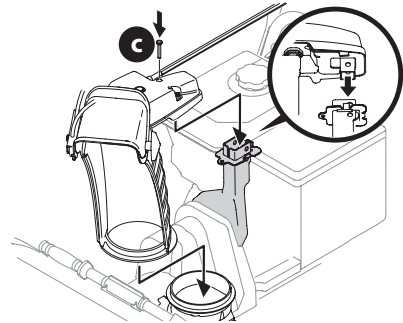

Figure 15
3. Place chute assembly onto chute base and ensure chute control rod is positioned above lower handle. Install hex screw (c) removed in Step 1, but do not secure with wing nut at this time (Figure 15).